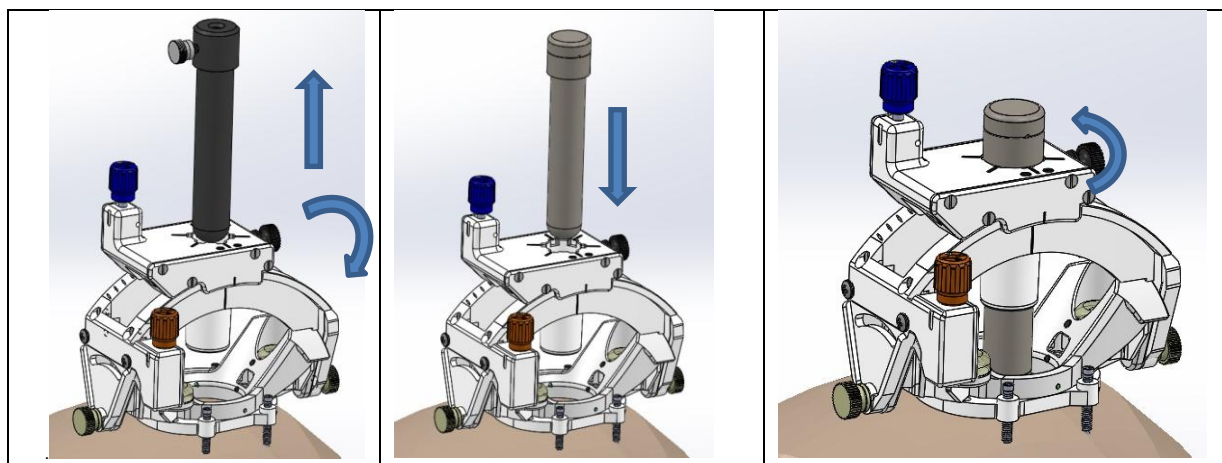

Figure 86: Removing the Probe Adapter (Left), Inserting the Targeting Stem (Middle), and Locking the Targeting Stem in the Tower (Right)
2. Remove the Probe Adapter from the Tower by loosening the Tower side thumb screw and pulling the Probe Adapter out of the Tower. **See Figure 86 (Left).**
3. Remove the Targeting Stem from the packaging tray and insert it into the SMARTFrame Array tower until it bottoms out. Then, tighten the Tower side thumb screw to secure the Targeting Stem in the Tower. **See Figure 86 (Middle) and (Right).**